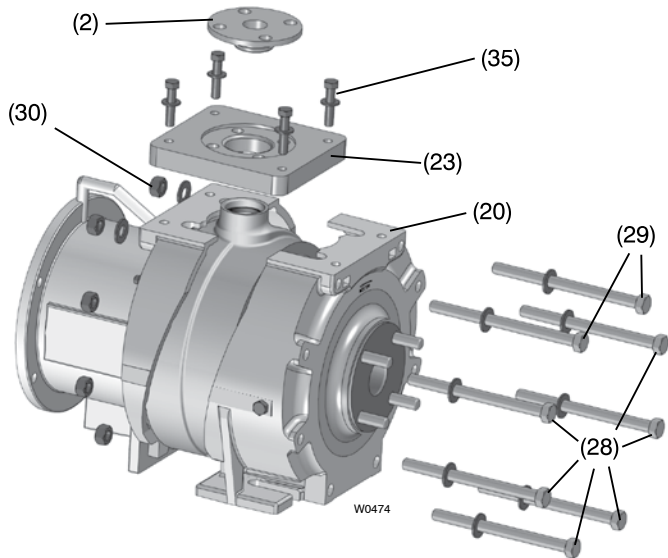

Figure 2
2. Remove hex bolts (35), and then detach flange support (23) with discharge flange (2) by lifting straight up as shown in Figure 2. Remove discharge flange (2) from flange support (23) and inspect O-ring (3). Replace if damaged.